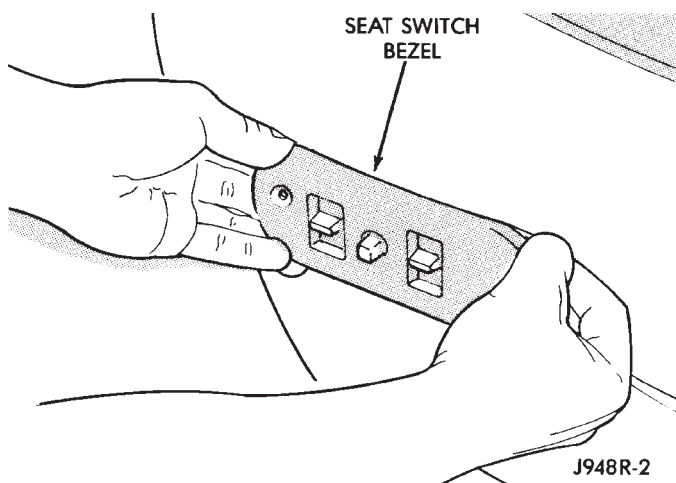

Fig. 2 Seat Switch and Bezel Remove/Install
(1) Disconnect and isolate the battery negative cable.
(2) Remove the two screws that secure the power seat switch and bezel unit to the seat cushion frame (Fig. 2).